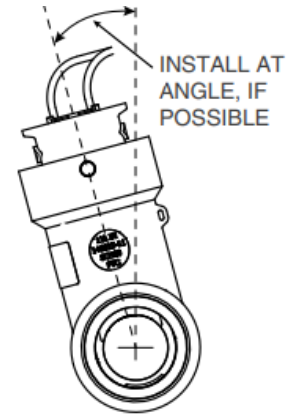

Figure 1
1. The Ultrasonic Meter is designed to be installed at a slight angle. Every UFMV is pre-configured at the specified angle (Figure 1). **Do not straighten the meter.**